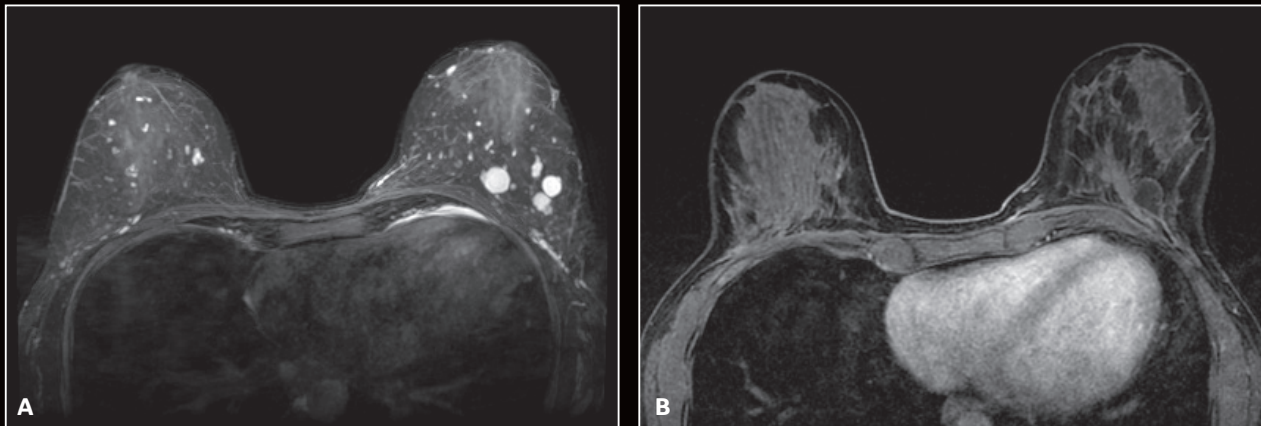

Figure 3. (A) T2 Flex HyperCube bilateral breast exam with HyperSense factor of 1.3 in a scan time of 3:37 min; (B) VIBRANT Flex.
Figure 3. In these images of a patient with metastatic cancer, Karolinska used T1 FLAIR, T1 FLAIR PROPELLER and MPRAGE with PROPELLER to evaluate lesions in the brain. The lesion is more clearly depicted in the (C) 3D MPRAGE than in either the (A) Axial T1 FLAIR or (B) Axial T1 FLAIR PROPELLER images.
For evaluating metastatic lesions in the brain, Karolinska has relied on BRAVO for 3D T1 imaging. However, Dr. Lönn is quite satisfied with the results of MPRAGE compared to BRAVO (Figure 3).
Figure 3. A 50-year-old claustrophobic male with gallstones, abnormal liver function test and pancreatitis. (A) Conventional 3D respiratory-triggered in scan time of 5:51 min; (B) 3D respiratory-triggered HyperSense in scan time of 2:31 min; (C) breath-hold radial HyperSense in scan time of 25 sec.